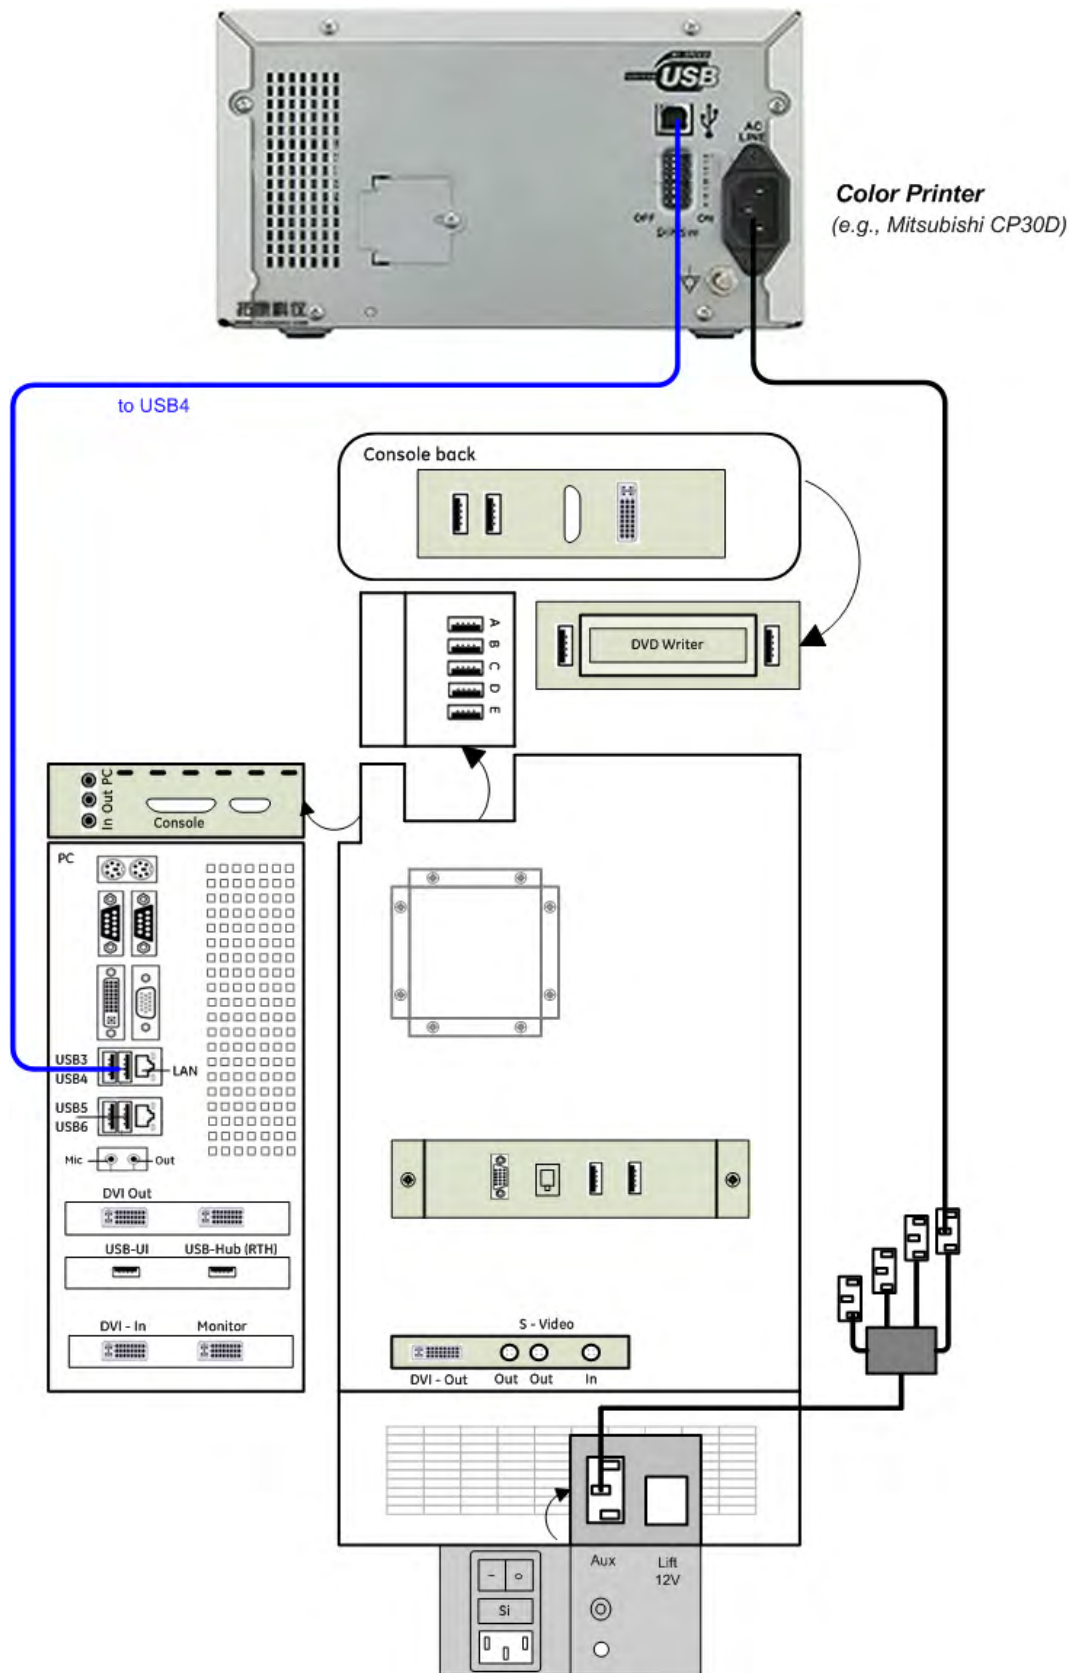

Figure 3-5 Connection Scheme - Color Printer
2. Connect the Color printer according to connection scheme, see: Figure 3-5 on page 3-14.